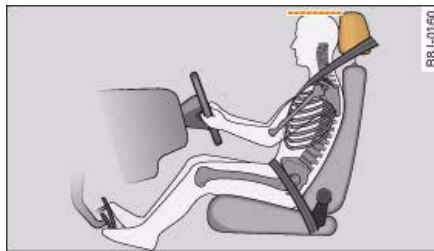

Fig. 163 Correct head restraint position for the driver
- Adjust the head restraint so that the top of the head restraint is level with the top of your head ⇒ fig. 163.